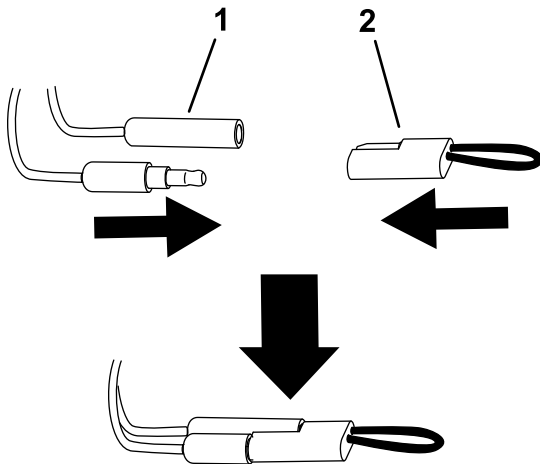

Figure 10
6. Disconnect the calibration connectors and install the plug onto the connectors (Figure 10).